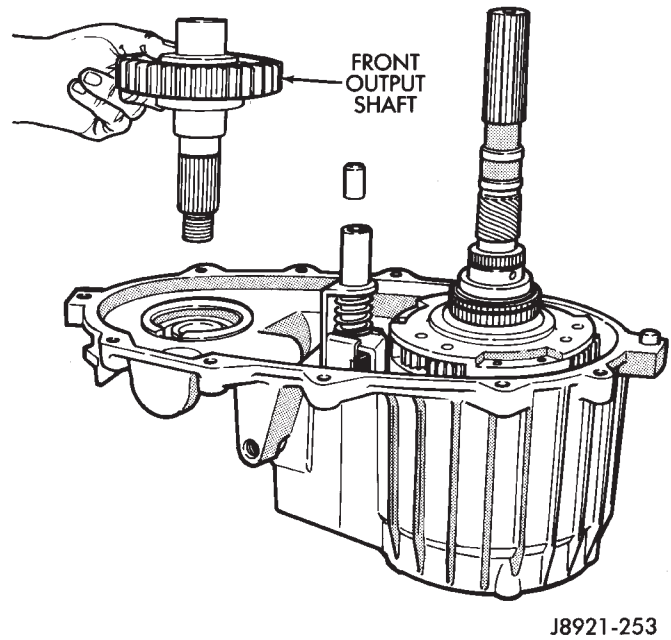

Fig. 25 Removing Front Output Shaft
- (3) Remove front output shaft (Fig. 25).